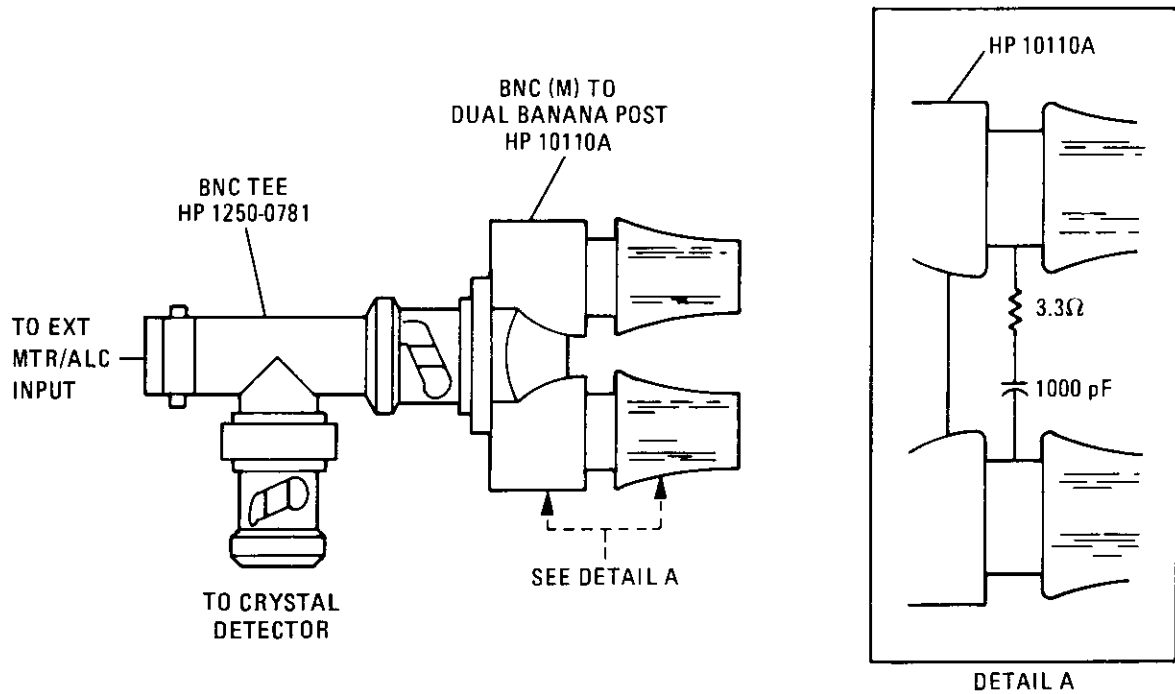

Figure 3-9. 10 to 50 MHz RF Feedthrough Dampening
4. To use leveled RF power output to test external equipment, make the connection at the point marked leveled power output in Figure 3-9.
**NOTE:** Between 10 and 50 MHz, RF feedthrough as high as 3 dB may be observed on the envelope of the video output. During external leveling between 10 and 50 MHz, the RF feedthrough can be damped out by inserting the circuit shown in Figure 3-9 in the line to the RF plug-in EXT ALC INPUT of the RF plug-in.